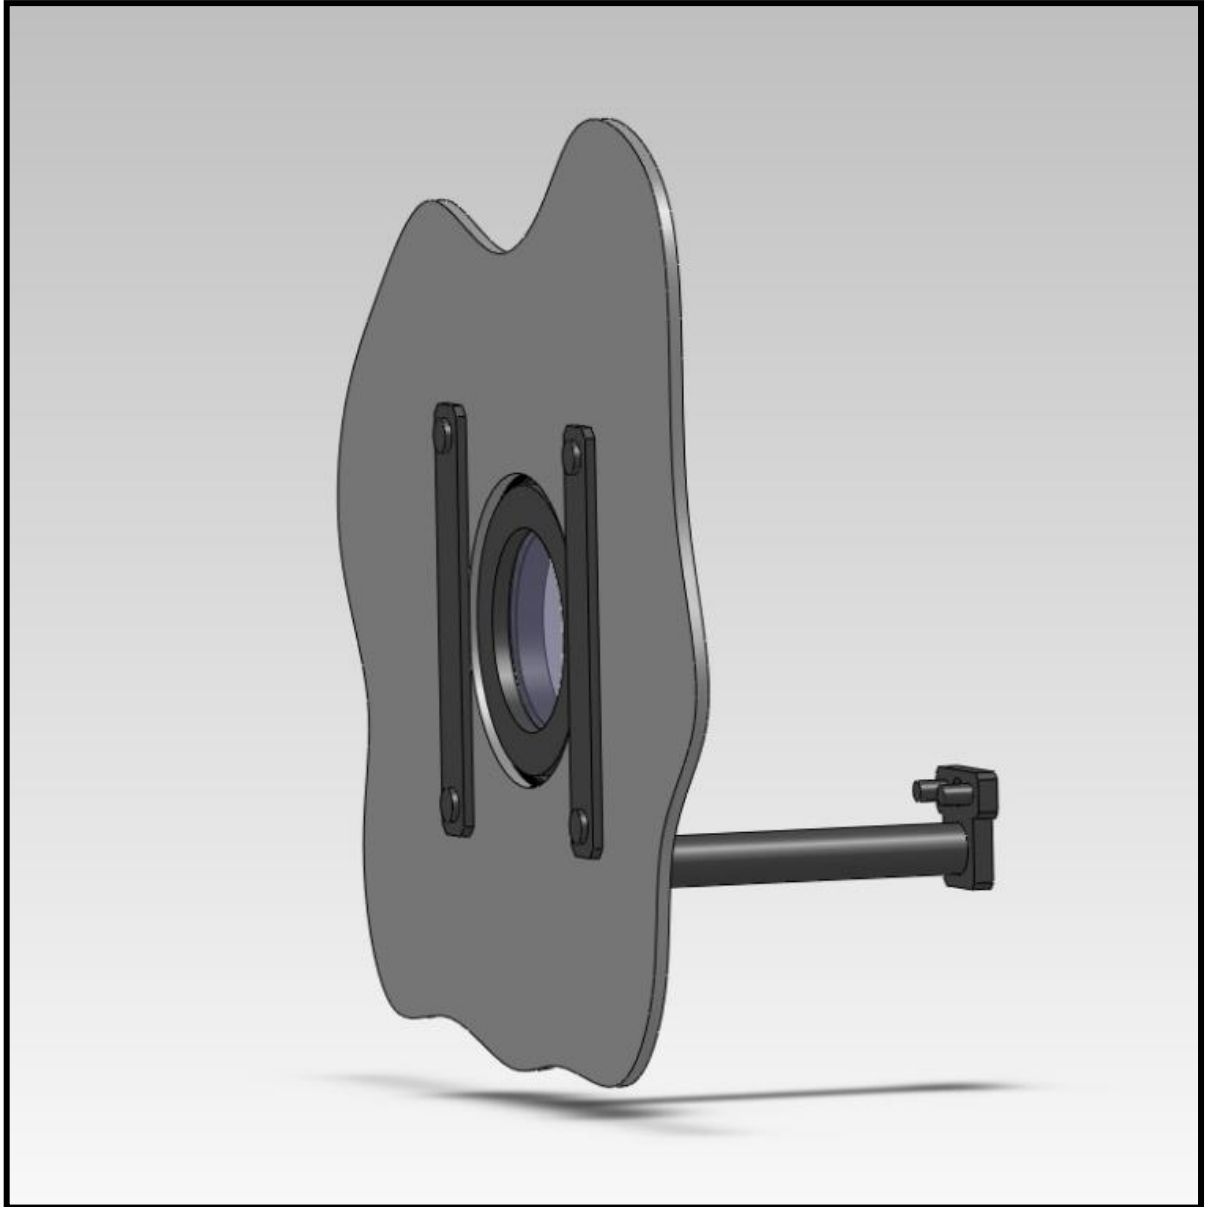

Figure 5: Duct Mount Parts After Assembly
- 1 Insert the first internal plate (1) through the air duct (2) hole (2.1).
- 2 Hold it by hand and press the base plate (3) to the installation surface against the internal plate (at base plate (3) there is a gasket that is glued).
- 4 Secure the base plate to the installation surface using 4 nuts (5) and washers (4).
- 6 Attach the duct mount base (6) to the base plate (3) and secure it with washers (7) and nuts (8).
The base plate (3) and duct mount (6) are now connected (see Figure 5).